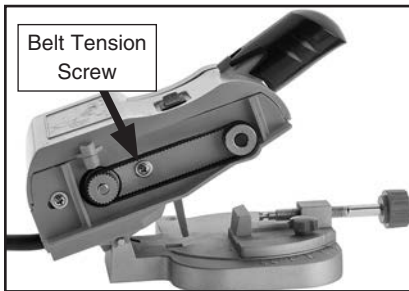

Figure 15. Belt tension screw location.
3. Loosen belt tension screw to release timing belt tension (see **Figure 15**).